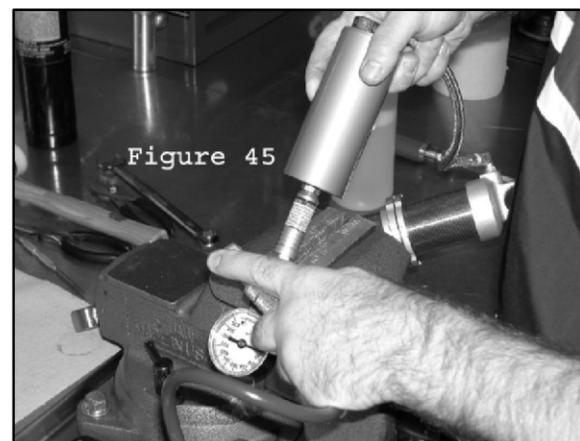

Figure 45
81. Insert the safety needle squarely into center of the air valve and pressurize the reservoir to 300psi. (Fig. 45) Continue charging with gas as you pull the reservoir away from the Fox™ Nitrogen Safety Needle using a smooth, straight motion. Keep the reservoir as straight as possible to prevent the safety needle from bending. As the safety needle is pulled free from the Fox™ air valve, a popping sound should be heard. **WARNING: CHARGE THE SHOCK USING NITROGEN GAS ONLY. DO NOT FILL WITH ANY OTHER GASSES. Doing so will compromise the performance of the shock and is EXTREMELY DANGEROUS!**